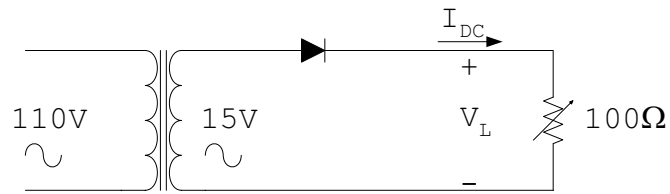

Fig. 1
- For each of the circuits in Figs 1, 2, and 3 adjust the load resistor to get $I_{DC} = 50$ mA. observe the output across the load on the oscilloscope and determine each of the quantities 1 to 4 mentioned in the Theory section above.
- For each of the circuits in Figs 1, 2, and 3, change the DC current from 50 mA to 0 by opening the load connection, and determine the percent regulation.
For the circuits shown in Figs. 1, 2, and 3: